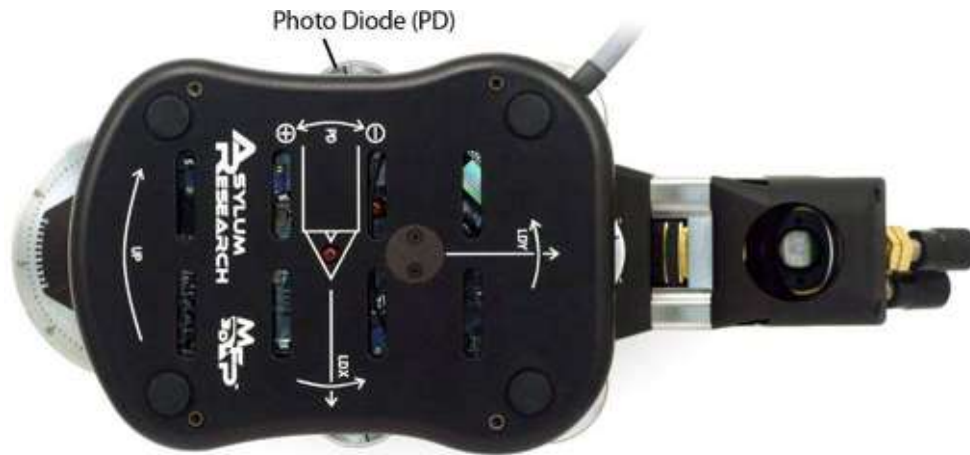

Figure 5.16 Photo Diode (PD)
- The PD knob increases and decreases the deflection in order to bring it to zero deflection (See Figure 5.16). Moving this knob tilts the mirror that directs light reflected off the cantilever at the photodiode. The photodiode is most linear at 0. For best results, you should calibrate in volts at approximately 0 deflection as you collect your data.